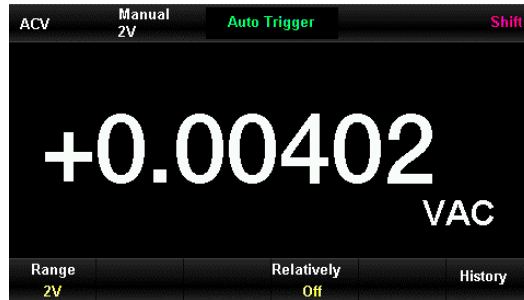

Figure 2-8 Interface of AC voltage measurement
- 1) Press  button to enter the interface of AC voltage measurement as Figure 2-8: